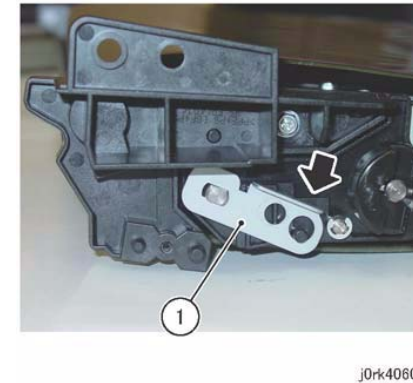

Figure 6 Tension Plate Install
8. Switch the Tension Plate that was removed in Step 5. (Figure 6)